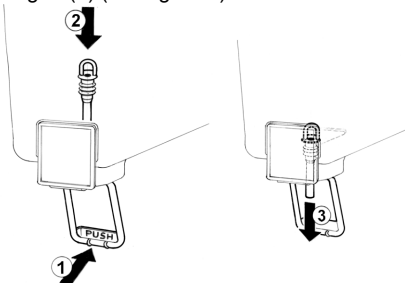

figure 4
- 2 Pinch tube faucet:** push the dispensing handle (1) and insert the pinch tube into its vertical seat in the bowl bottom(2). Lightly pull the pinch tube end downwards til itl is well arranged (3) (see figure 4).